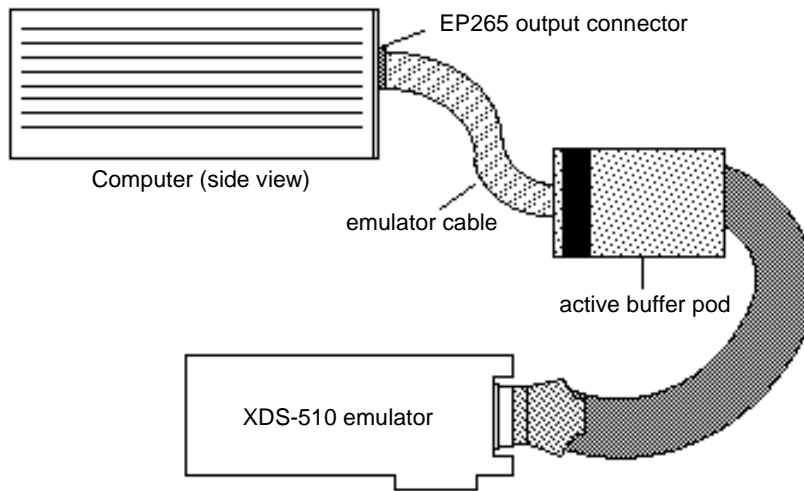

Figure 7: Connecting the Emulator to the EP265 Cable
- Attach the emulator's cable to the EP265 connector at the rear panel, as shown in Figure 7.